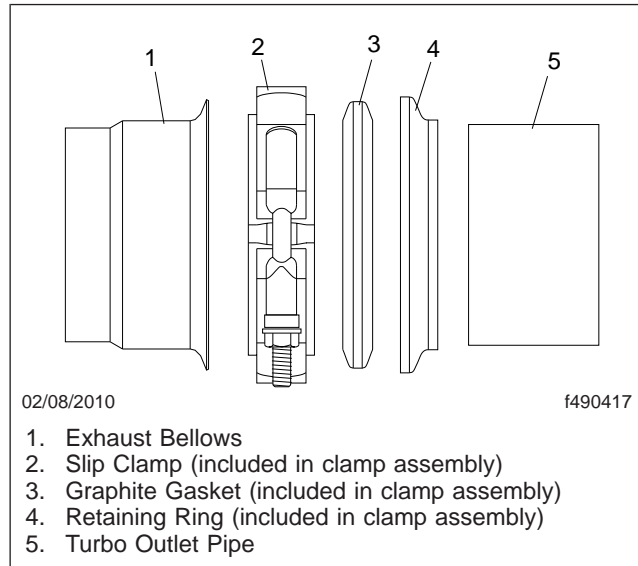

Fig. 7, Forward Facing Slip Clamp Installation
10. Install the slip clamp assembly, with the retaining ring and graphite gasket ring, onto the turbo outlet pipe. See **Fig. 7** for proper installation.